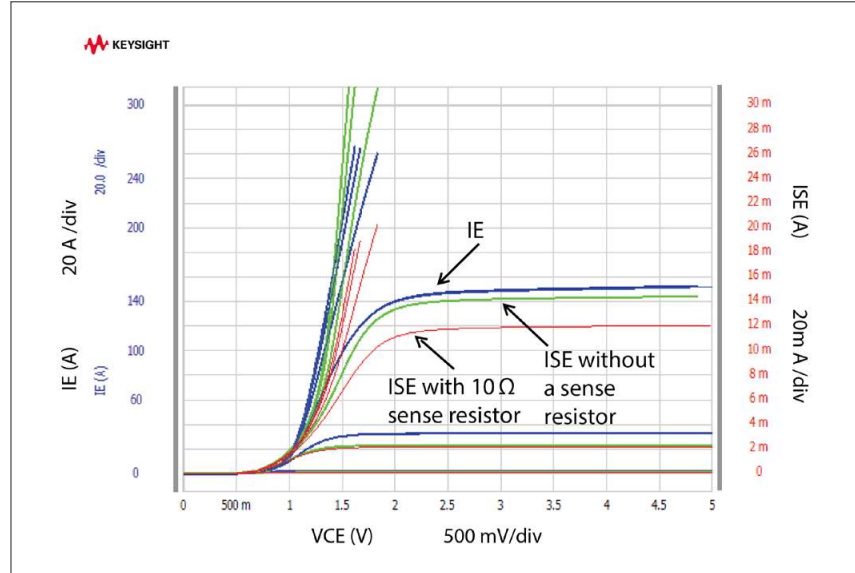

FIGURE 3. Plot of IE/ISE-VCE characteristics
Figure 3 shows plots of emitter current (IE) and sense emitter current (ISE) versus collector voltage (VCE) both with and without a shunt resistor. Note that the scales of the IE axis and the ISE axis differ by a factor of 10,000.